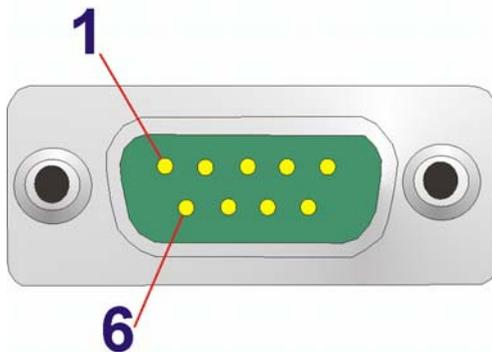

Figure 4-27: COM1 Pinout Locations
- CN Pinouts:** See Table 4-27 and Figure 4-27